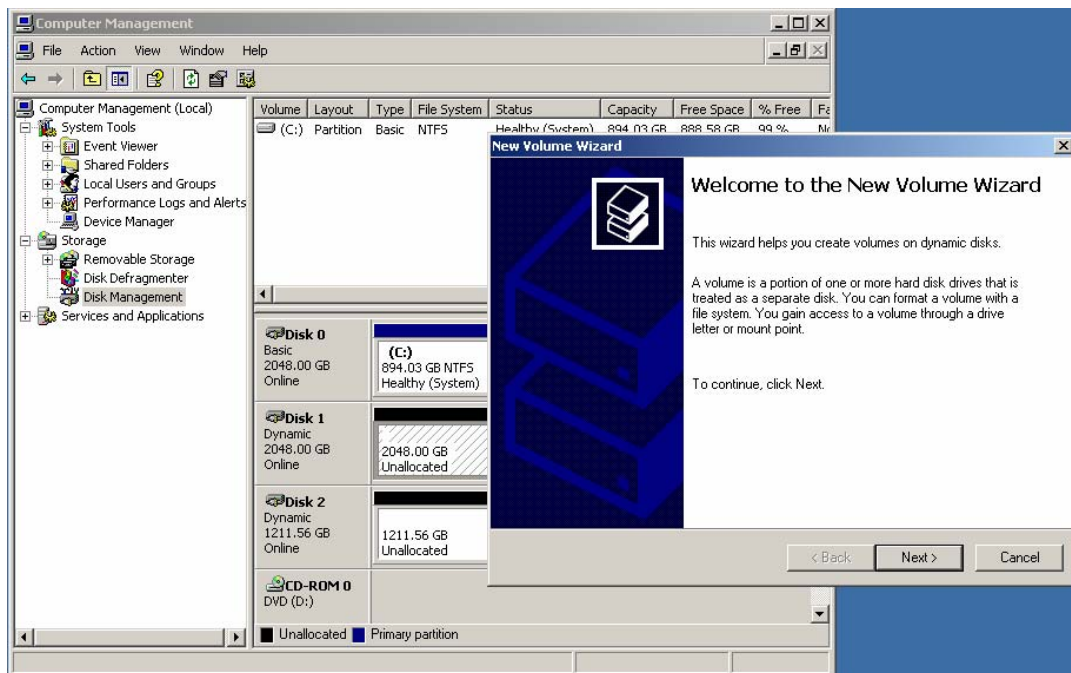

Figure 6-25. Select the New Volume option
- 27) Right-click on the **Disk 1** area and then select the **New Volume** option from the ensuing pop-up menu as shown in Figure 6-25.